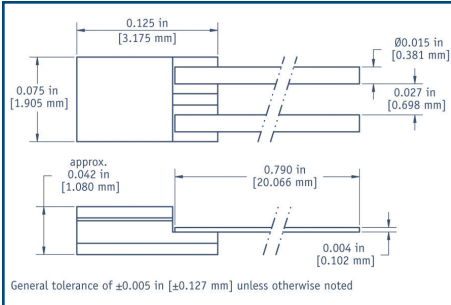

Figure 2 – SD Package
- Although the SD sensor package (Figure 2) is a 2-lead device, measurements should preferably be made using a 4-wire configuration to avoid uncertainties associated with lead resistance.